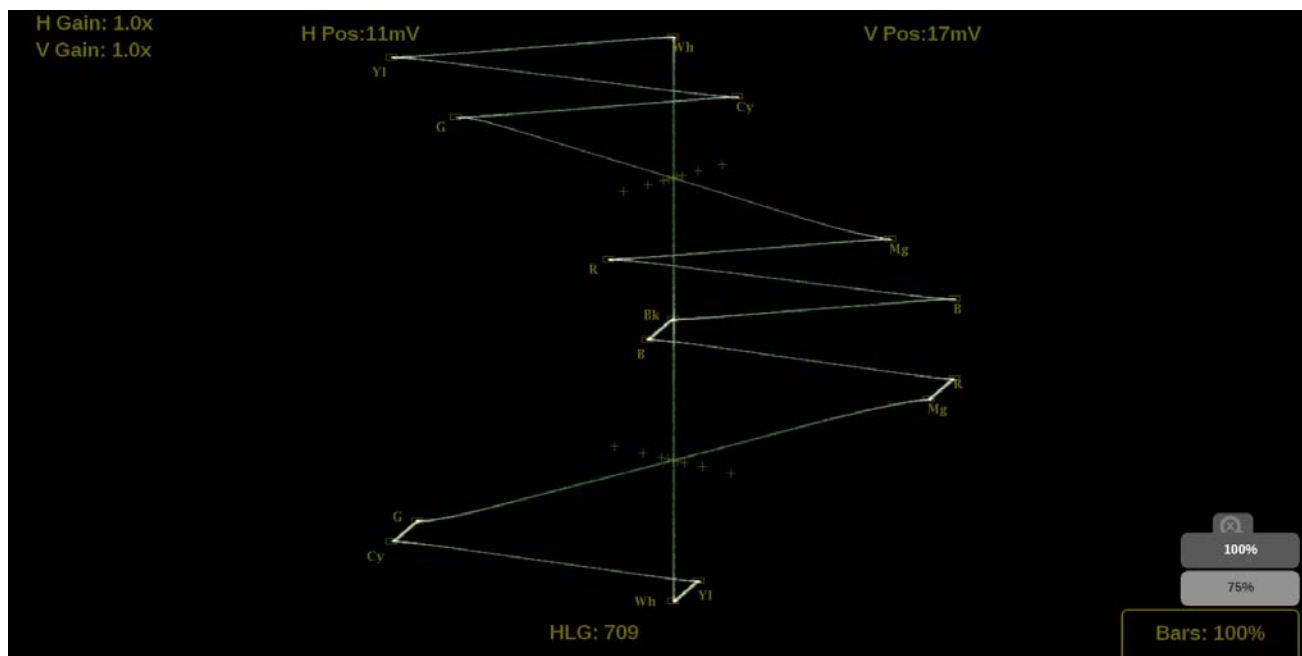

Figure 113: Lightning on-screen tools – Bar Targets
1. Touch the **Bars** button in the bottom right corner of the application to expand the available options. (See Figure 113.)